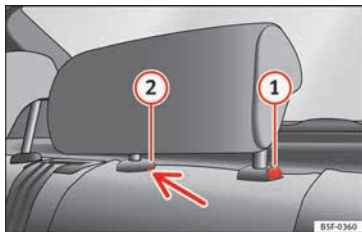

Fig. 146 Rear centre head restraint: release point.
- To set the head restraint lower down, press the  **Fig. 146** button and move it downwards.
- Press the button  **Fig. 146**, while pressing simultaneously on the security hole  **Fig. 146** with a flat screwdriver a maximum of 5 mm wide and remove the head restraint.